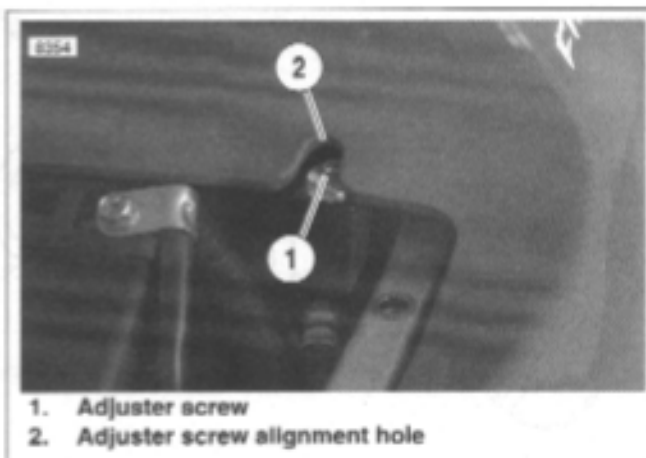

Figure 2-83. Adjuster Screw Alignment
2. Install lower shock mount with fasteners (6, 9) and lower shock mount sleeve (8) and tighten to 15-17 ft-lbs (20.3-23 Nm).
- b. See Figure 2-83. Temporarily place upper body work into tail section and adjust reservoir placement on